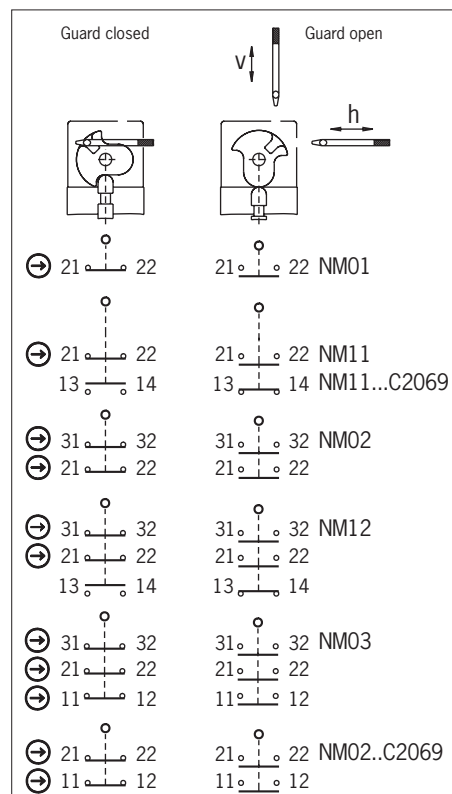

Fig. 3: Switching elements and switching functions
At least one contact (→) must be used. This signals the position of the guard (for terminal assignment, see Fig. 3).
3. Connect and tighten terminals with 0.5 Nm (for terminal assignment, see Fig. 3).